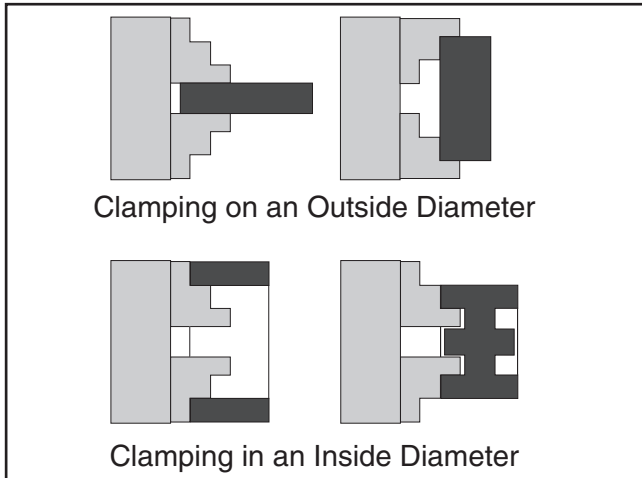

Figure 21. Loading a workpiece.
1. With the chuck key, open the jaws so the workpiece lays flat against the chuck face and jaw step, or fits in the through hole. For jaw and work holding options, see **Figure 21**.
The jaws of the three-jaw chuck are reversible to accommodate different workpieces. The jaws hold the workpiece by the outer diameter in the outside configuration. The inside configuration holds larger work from the inside and holds smaller work from the outside when held in the center (see **Figure 21**).